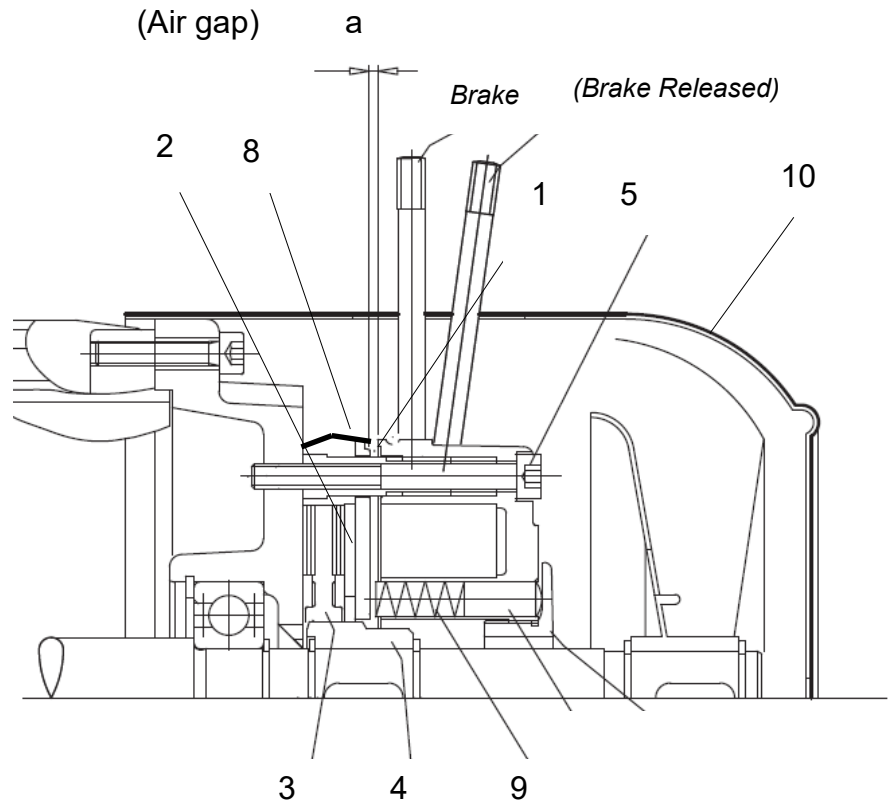

Fig.K.03 Brake Disk
2. Remove the motor fan cover (10).
3. Remove the brake lining protection (8).
4. Measure the thickness of the brake disk (3) using a sliding caliper: if the value is < 11.5 mm, the brake must be replaced.
Measure air gap “a” between magnetic part (1) and armature (2) (see fig. K-03), using a feeler gauge.